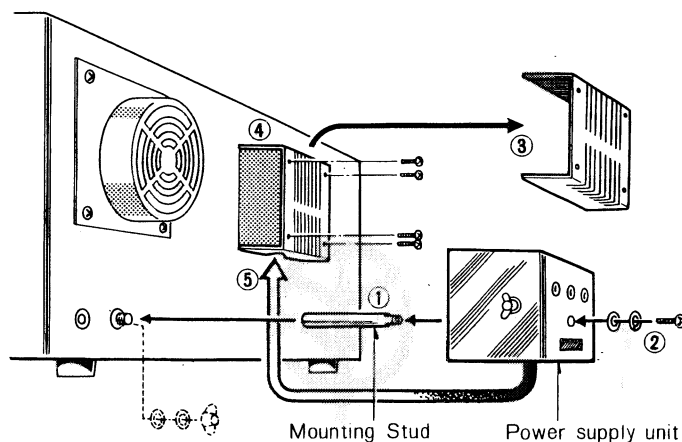

Fig 1
First, remove the top and bottom covers of the TS-520. When removing the top cover, remember to unplug the speaker lead before setting the top aside. Install the DK-520 as follows: (Ref. to fig. 1 thru. 6)
2. Install the DK-520 power supply unit on the mounting stud as shown in fig. 1. Use the panhead screw, lock washer, and flat washer to hold the power supply unit in place.